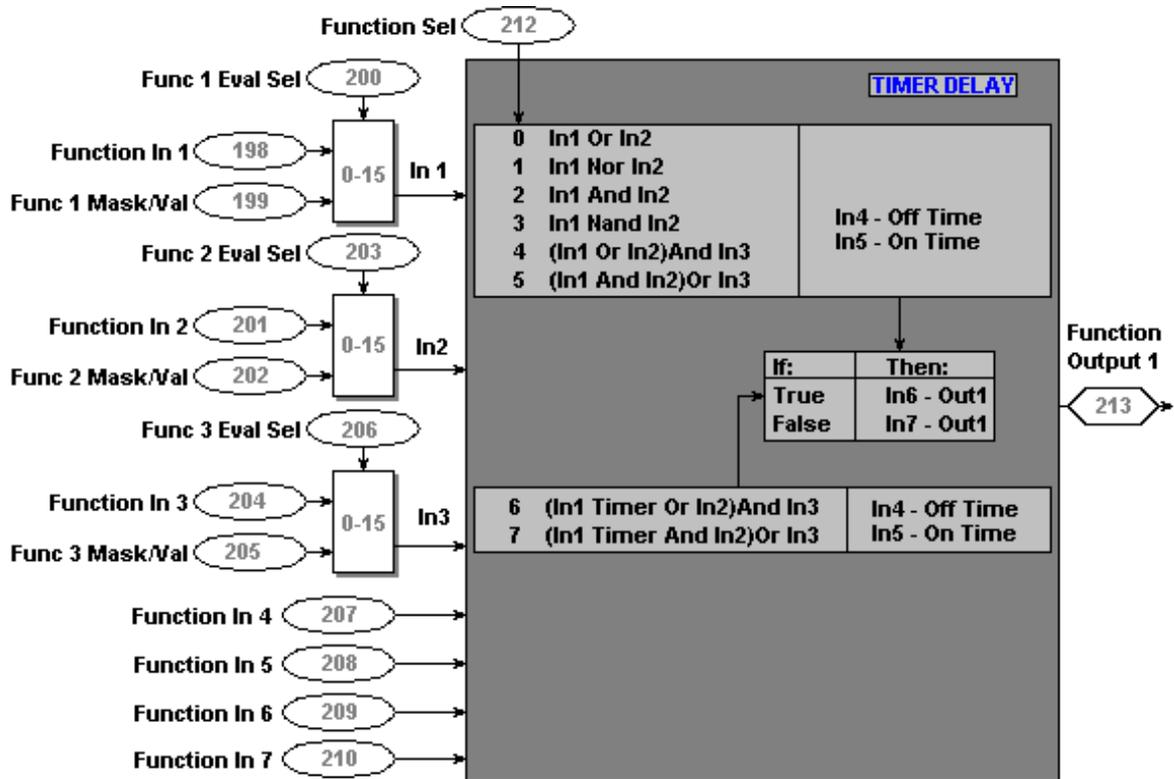

Figure 1
The timer/delay function emulates the action of a mechanical on/off delay timer. The function inputs are routed to circuits that perform logical functions (AND,NAND,OR, and NOR). Additional noise immunity can be achieved by using a time value in both the on and off delay circuits. To configure the drive with the Timer/Delay circuit the [Function Sel] parameter (212) must be programmed appropriately. Refer to figure 1.